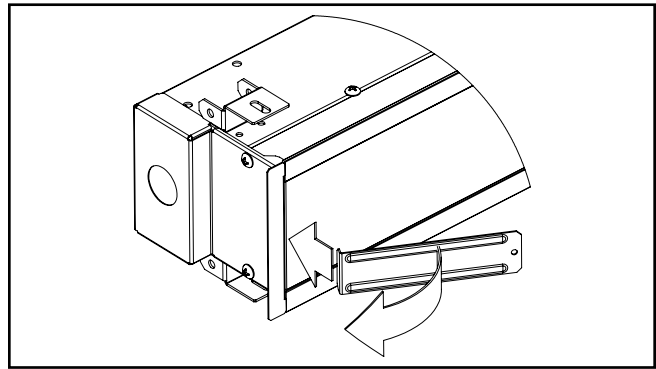

**Figure 2.**
2. Next, determine if the fixture will be installed alone, or end to end with other fixtures. If the fixture is to be installed alone, the endcap farthest from the access plate should be replaced with the single fixture drywall endcap. If the fixtures will be installed end to end, the endcap should be replaced with the end to end endcap. See Figures 2 and 3.